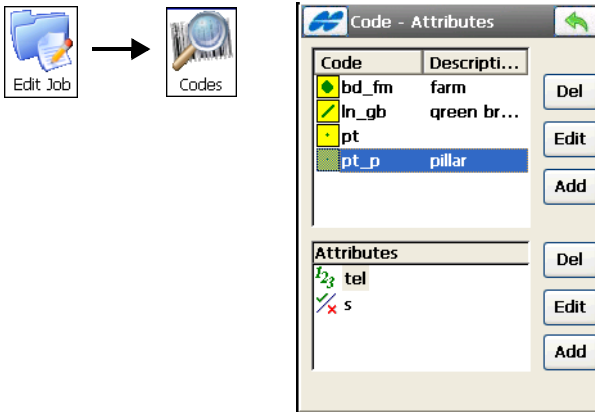
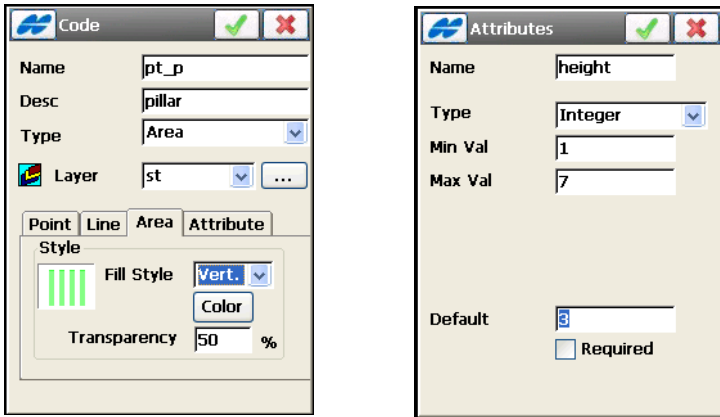
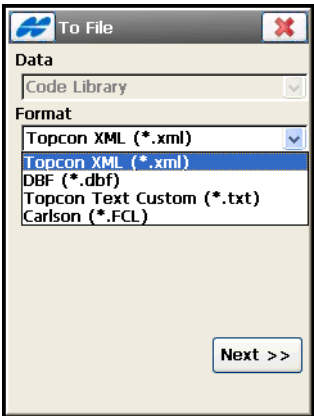

Figure 6-17. Code - Attributes
Figure 6-18. Edit Codes / Attributes
Figure 6-19. Export to Code Library
To edit codes and attributes, tap **Edit Job ▶ Codes**. Codes already in use cannot be edited or deleted. The *Code - Attributes* screen displays (Figure 6-17).
- Select the type of code (from *Point*, *Line*, *Area*). A symbol will show the code type ( *Point*,  *Line*, or  *Area*). Select the layer that the code will be stored to. Set the Code Style to represent points, lines and areas with this code on the selected layer (Figure 6-18 on page 6-13). On the *Attributes* tab, select a radio button for the prompt for code at the beginning of a line or at every point along the line. Tap the  button.
- To define the attributes for the new code, select the code and tap the **Add** button on the right side of the screen. Set the name, type, and parameters of the attribute for the code on the *Attributes* screen (Figure 6-18 on page 6-13). Attribute type indicates whether attribute values can be set as boolean *True* or *False*, or selected from a list of available values, or are
3. To edit a code or attribute, double-tap the object or select it and tap the corresponding **Edit** button (Figure 6-17 on page 6-12). In the *Code* or *Attribute* screen, make changes and tap the ok  button (Figure 6-18).
4. To delete a code or attribute, highlight it in the list and tap the corresponding **Del** button (Figure 6-17 on page 6-12). Codes being used in points and their corresponding attributes cannot be deleted.
5. To export the code library to the selected file format, select the *Export To File* option (Figure 6-19 on page 6-14) from the Help Icon menu in the upper-left corner of the *Code - Attributes* screen (Figure 6-17 on page 6-12).